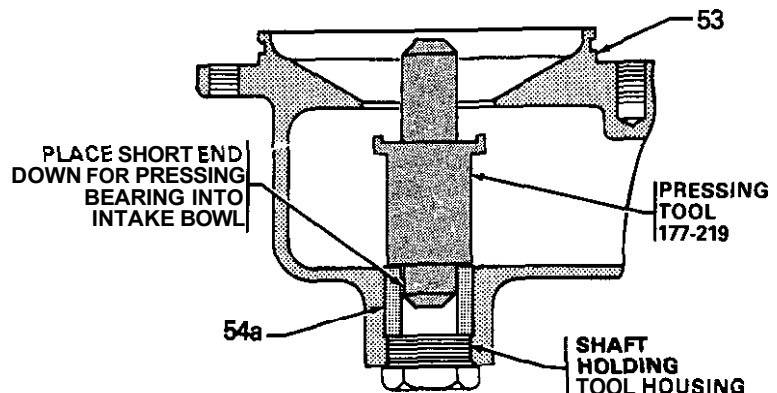

Fig 13
- c. Thread the shaft holddown tool (85) into the bottom of the intake bowl as shown in Fig 13.
- d. Use the short end of tool 177-219 to press the new bearing (54a) into the intake bowl until it bottoms against the shaft holddown tool. Refer to Fig 13.